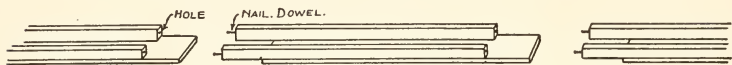

FIG. 78. — The Tracks.
A good substitute for the tin tracks ordinarily sold in shops for toy railways will be found in those shown in Fig. 78. These
**Tracks** consist of quarter-inch strips mounted upon pieces of cardboard. Make a small gimlet-hole in one end of each stick, and drive a short finishing nail in the opposite end (see Fig. 78). Cut the cardboard strips the